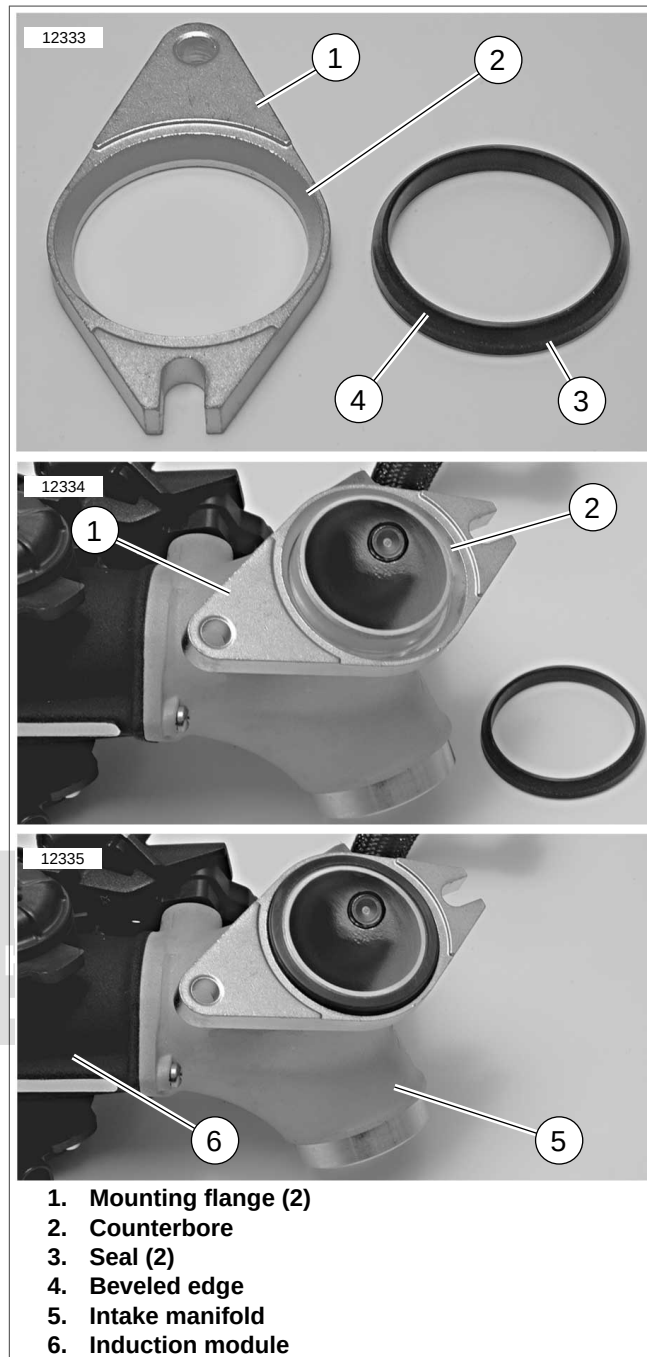

Figure 4-46. Installing Mounting Flange and Seal
2. See Figure 4-46. Install mounting flanges (1) on intake manifold (5) with counterbore (2) facing away from manifold and open slotted ends of flanges facing away from induction module (6) as shown in the figure.
3. Place a **new** seal (3) into each mounting flange with the beveled edge (4) facing the mounting flange counterbore.